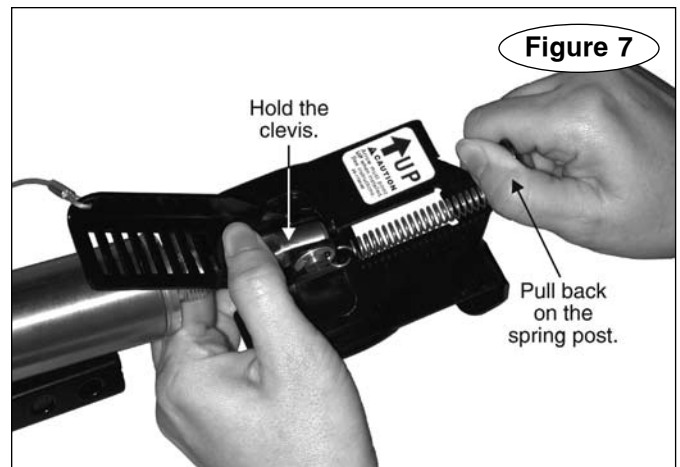

Figure 7
9. Then, hold the clevis (Figure 7) and pull back on the spring post (Figure 7), until the tabs under the pedal clamp are wide enough to clear the brake pedal.